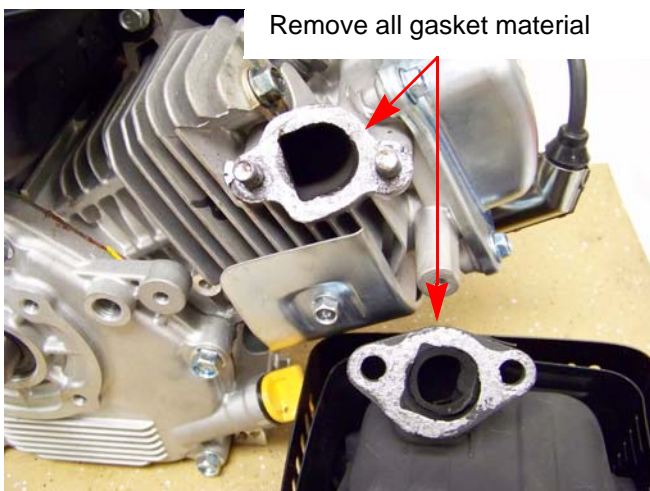

Figure 8.5
3. Clean all of the gasket material off of the cylinder head and the muffler (if reusing the muffler). See Figure 8.5.